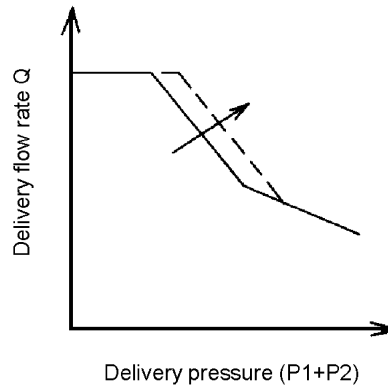

Fig.1-18 Adjusting the input horsepower (1)
Adjust it by loosening lock nut (630) and by tightening adjust screw C (628) (or loosening it). Tightening the adjust screw shifts the control chart to the right and increases the input horsepower, as indicated in Fig.1-18.